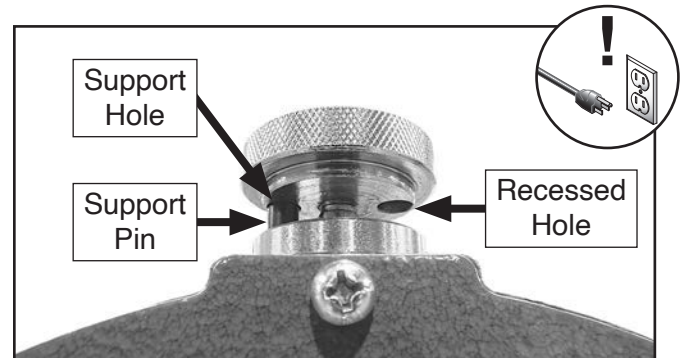

Figure 64. Spindle lock pin UNLOCKED.
2. Lift spindle lock pin until support pin separates from support hole (see **Figure 64**).